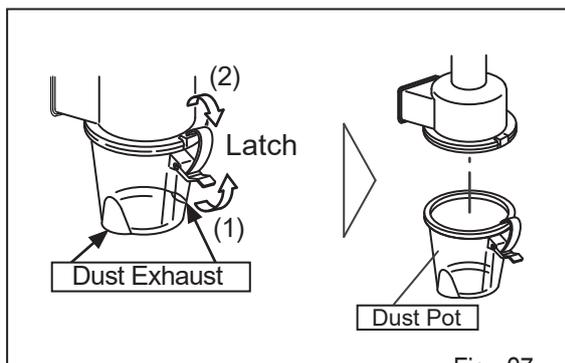

Fig. 27
- a. Latch off to remove Dust Pot. (Fig. 27)